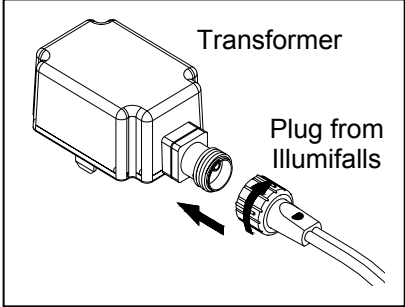

Fig. 13
13. Connect the Illumifalls to the transformer by pushing the plug into the transformer socket until it is firmly seated. Hand tighten the nut from the plug to the socket. Fig. 13